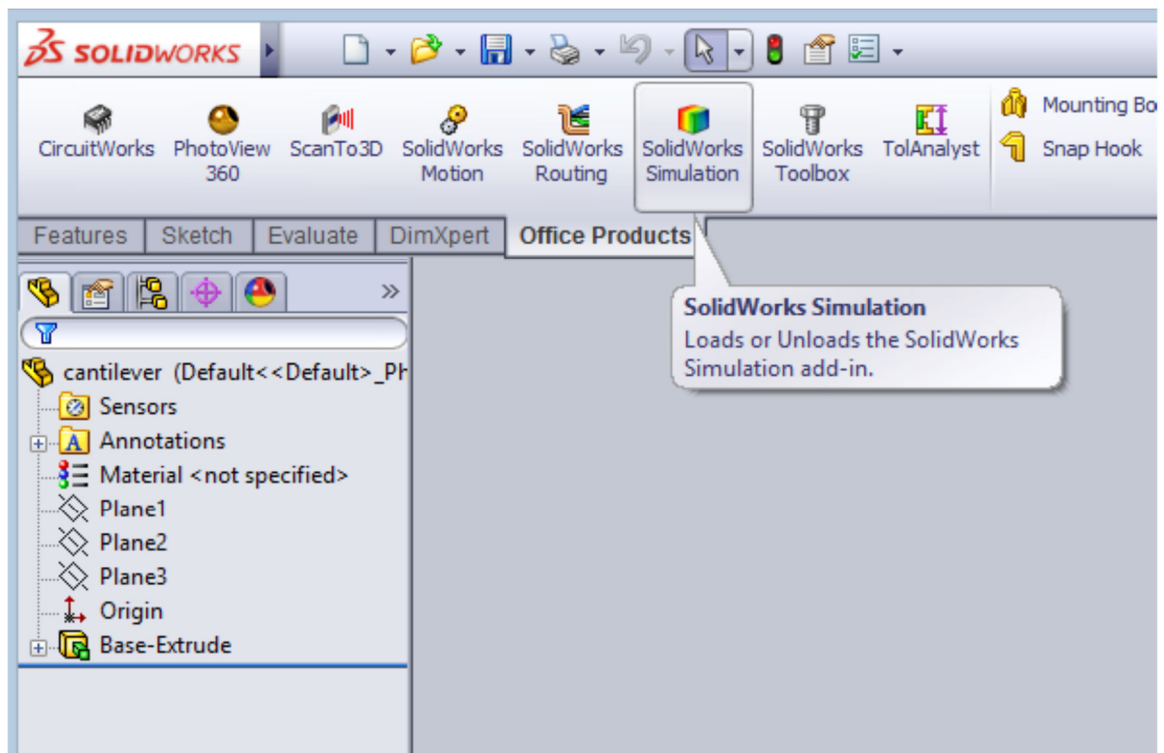

Figure 10.
- I. If you have a license for this add-in you can select the “Office Products” tab then click the “SOLIDWORKS Simulation” tab (Figure 10.)